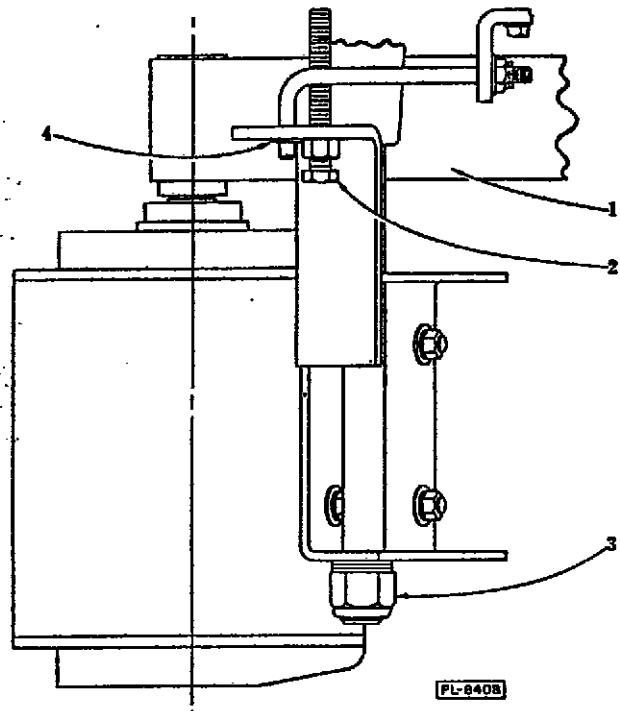

Fig. 5
D.1 The poly V belt drive (1, Fig. 5) should require little or no maintenance.
D.1.1.1 If for any reason (such as motor removal) alignment becomes necessary, loosen the stop screw (2, Fig. 5), then adjust motor unit up or down by turning pivot shaft nut (3, Fig. 5). Re-adjust stop screw and lock with lock nut.
D.2.6 Loosen the belt tightener (D.1.2) then remove the belt tightener retaining ring (4, Fig. 5).
D.2.7 Remove pivot shaft nut (3, Fig. 5) and slide motor and support from shaft.